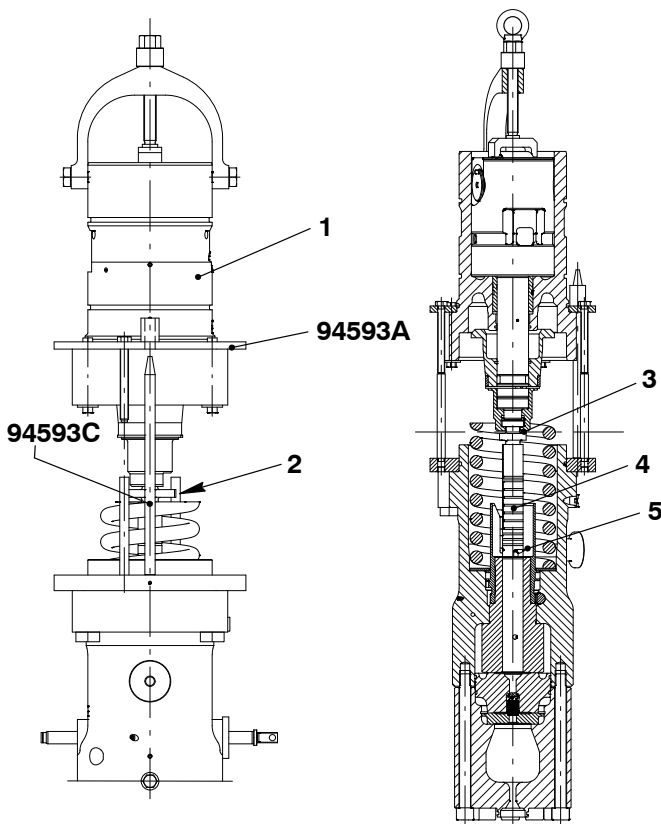

Fig. 22
- 4) Carefully lower the bottom housing (1, Fig. 22) sufficiently to engage the rods (94593C) with the holes in the ring (94593A).
- 5) Continue to lower the bottom housing (1) until the pump plunger (4) is a small distance from the regulating sleeve (5).